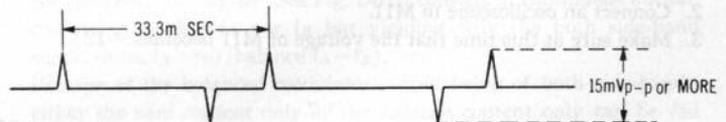

Fig. 7
4. Make sure that the waveform of the control head terminal becomes as shown in Fig. 7.